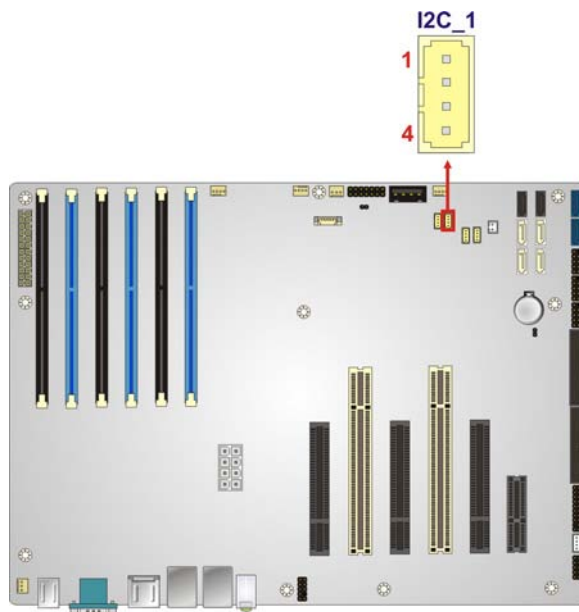

Figure 3-12: I2C Connector Location
- CN Location: See **Figure 3-12**